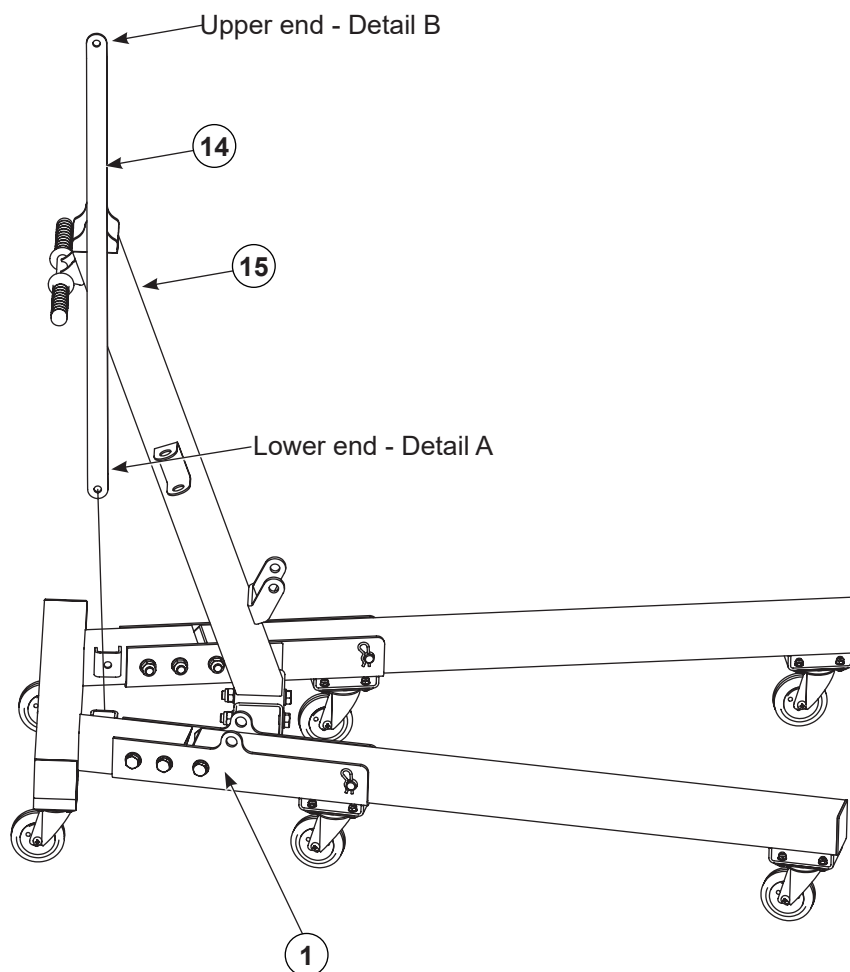
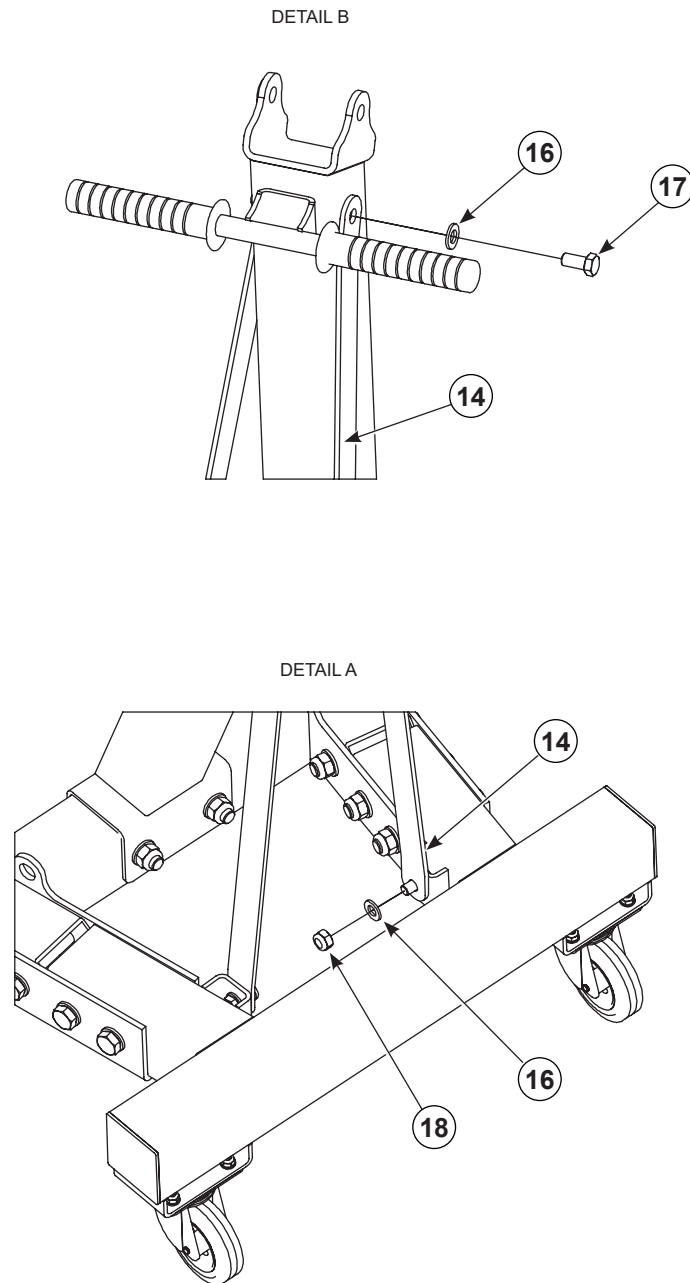

Figure 10 Support Installation (1 of 2)
Figure 11 Support Installation (2 of 2)
See Figures 10 and 11. Also, refer to Figure 1.
1. See Figure 10. Connect lower end of support (14) to base (1).
2. Align upper end of support (14) with boom support post (15).
3. See Figure 11. Loosely install lock washer (16) and bolt (17) to connect support (14) to boom support post.
4. Loosely install lock washer (16) and nut (18) to lower end of support (14).
5. Utilizing a wrench or equivalent tool, tighten bolt (17) and nut (18) to 73.8 ft-lb (100.0 N•m).